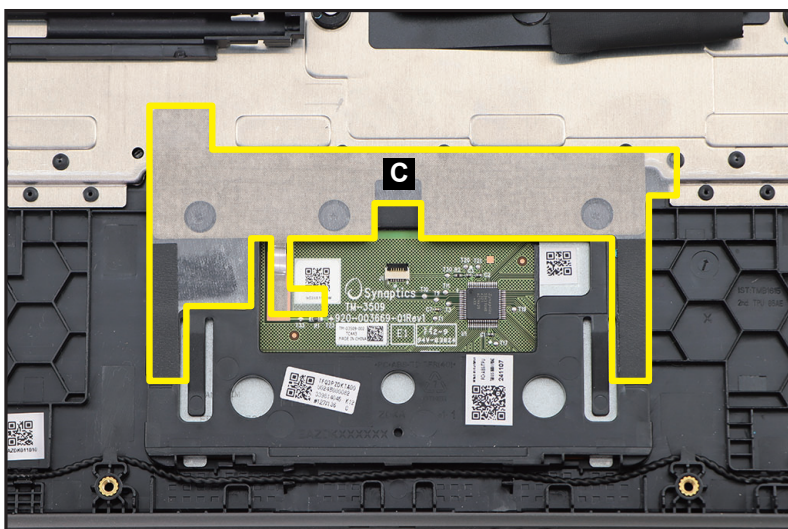

Figure 1-15. Touchpad Module Removal
4. Gently peel off the conductive tape with mylar (C) from the touchpad module and top assembly (Figure 1-15).